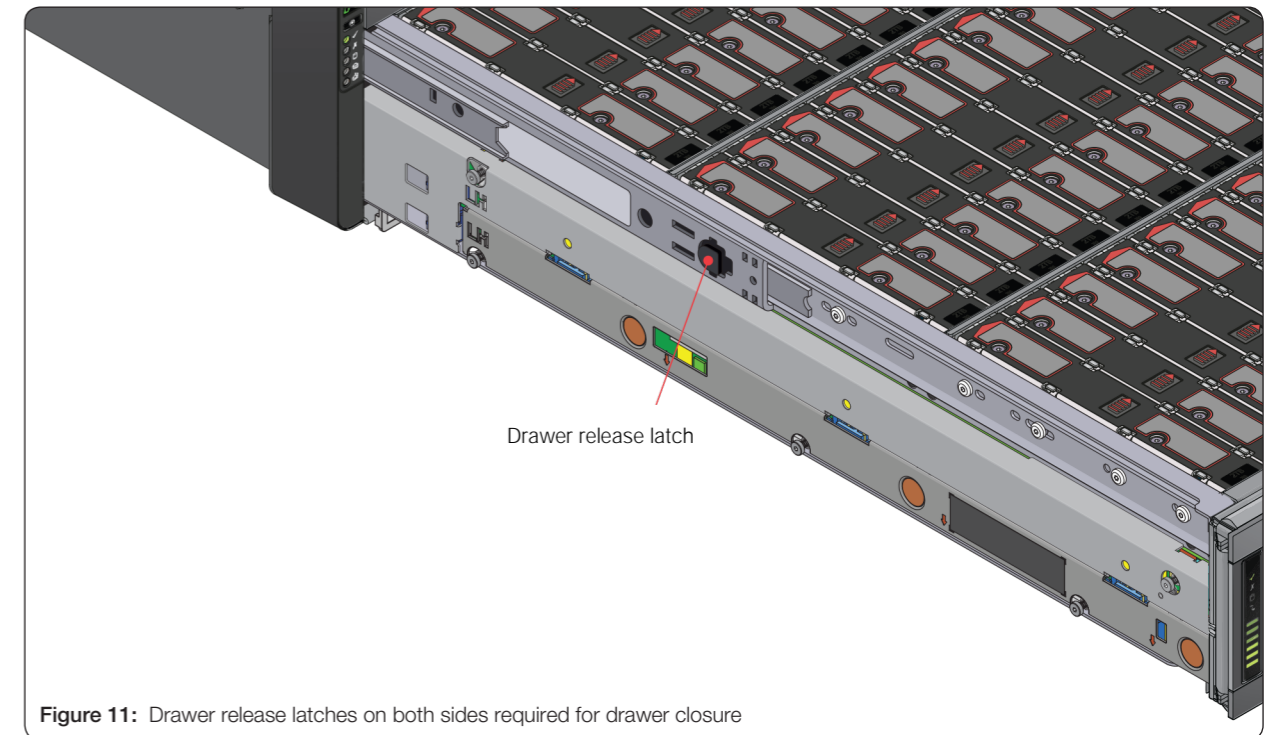

Figure 11: Drawer release latches on both sides required for drawer closure
1. Press and hold both of the black release latches on each side of the drawer (Figure 11).